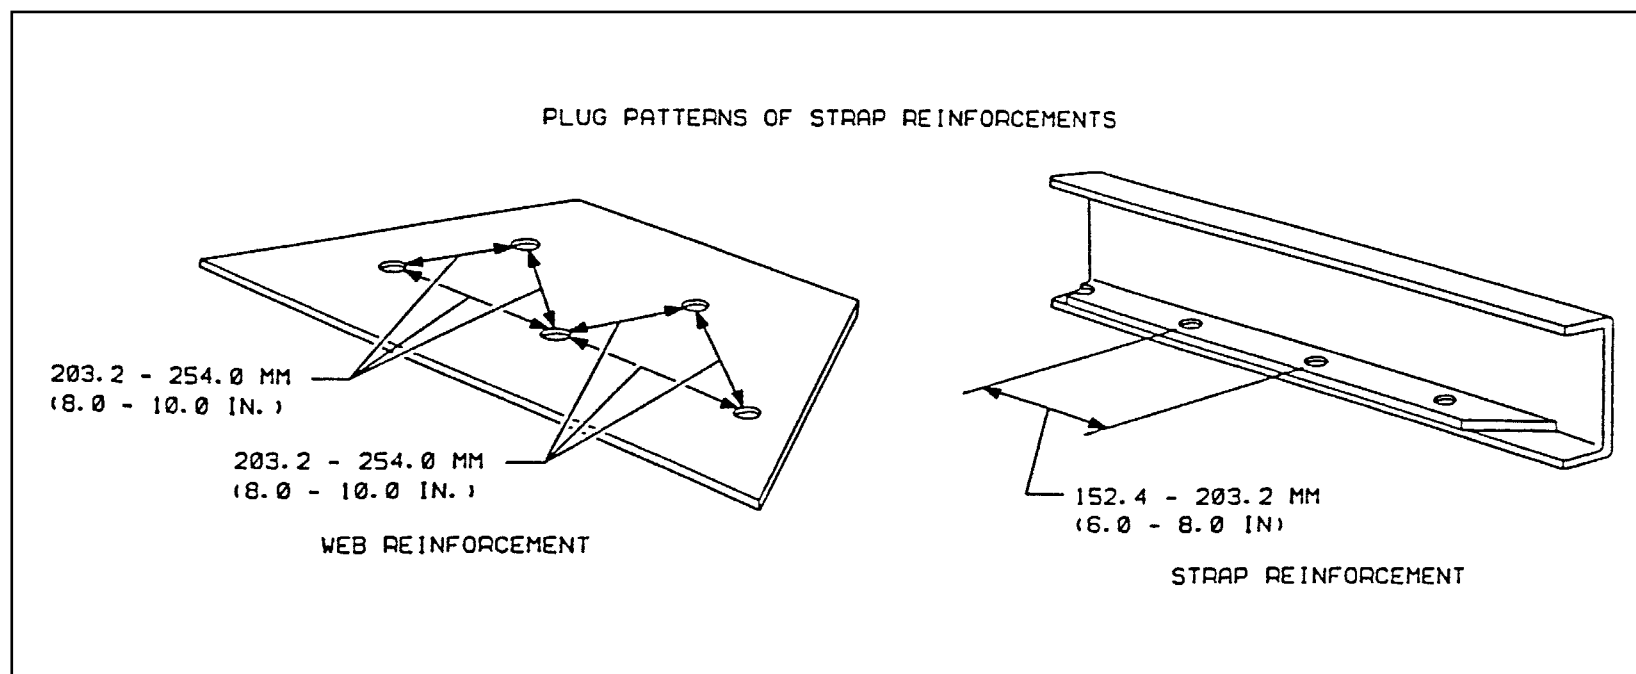

Figure 12
- Stagger plug welds in a 203-254 mm (8-10 in.) pattern when attaching reinforcements to the web section (Figure 12).